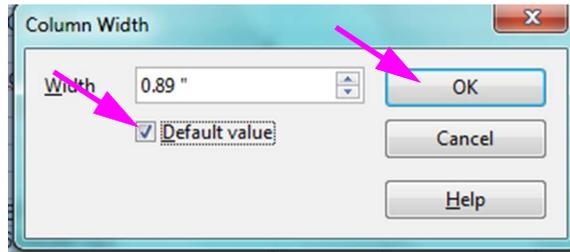

Figure D-7. Column Width Dialog Box
10. The Column Width dialog box appears. See Figure D-7